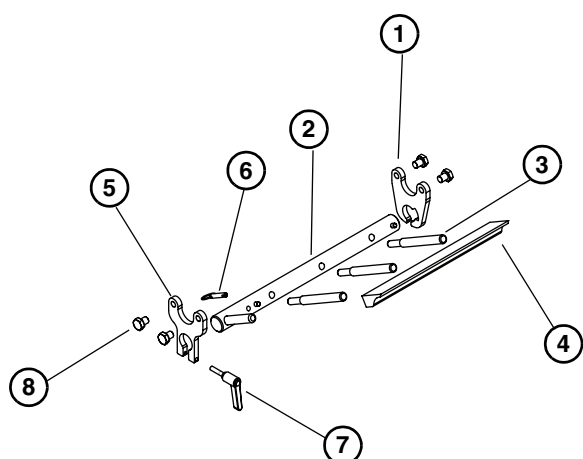

Figure 26
Typical Scraper Components (Figure 26)
1. Attach the scraper adjust plate (Figure 26, item 1) and the scraper mount plate (Figure 26, item 5) to the frame using four M10-1.5 x 12mm hex head cap screws.